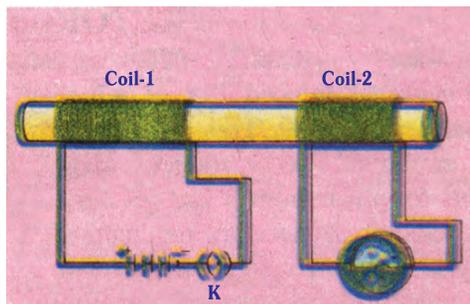

Fig. 4.17 : Current is induced in coil-2 when current in coil 1 is changed
- Take two different coils of copper wire having large number of turns (say 50 and 100 turns respectively). Insert them over a non-conducting cylindrical roll, as shown in Fig. 4.17. (You may use a thick paper roll for this purpose.)